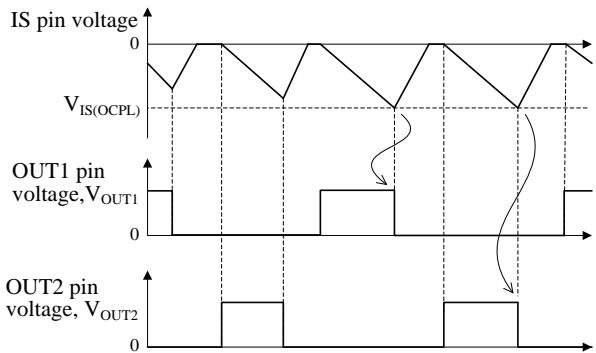

Figure 8-14 OCP operation by $V_{IS(OCPL)}$
1) When either V_{OUT1} or V_{OUT2} is High, the output, which is set High, is set to Low as shown in Figure 8-14.